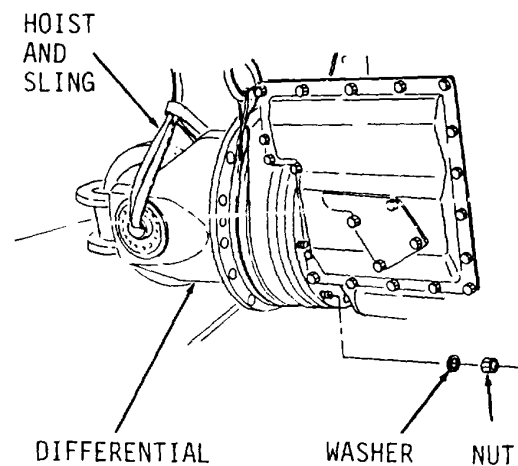

Figure 5-111.
2. Remove ten nuts, washers and differential (Figure 5-111).
2. Position differential to transmission (Figure 5-111).